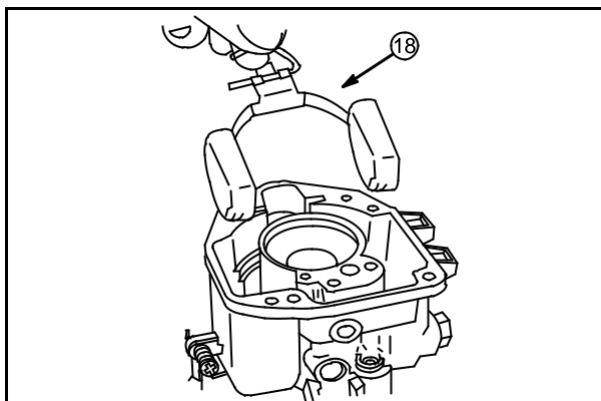

Fig. 90
Assemble inlet needle to float. Install float assembly (18), **Fig. 90**.